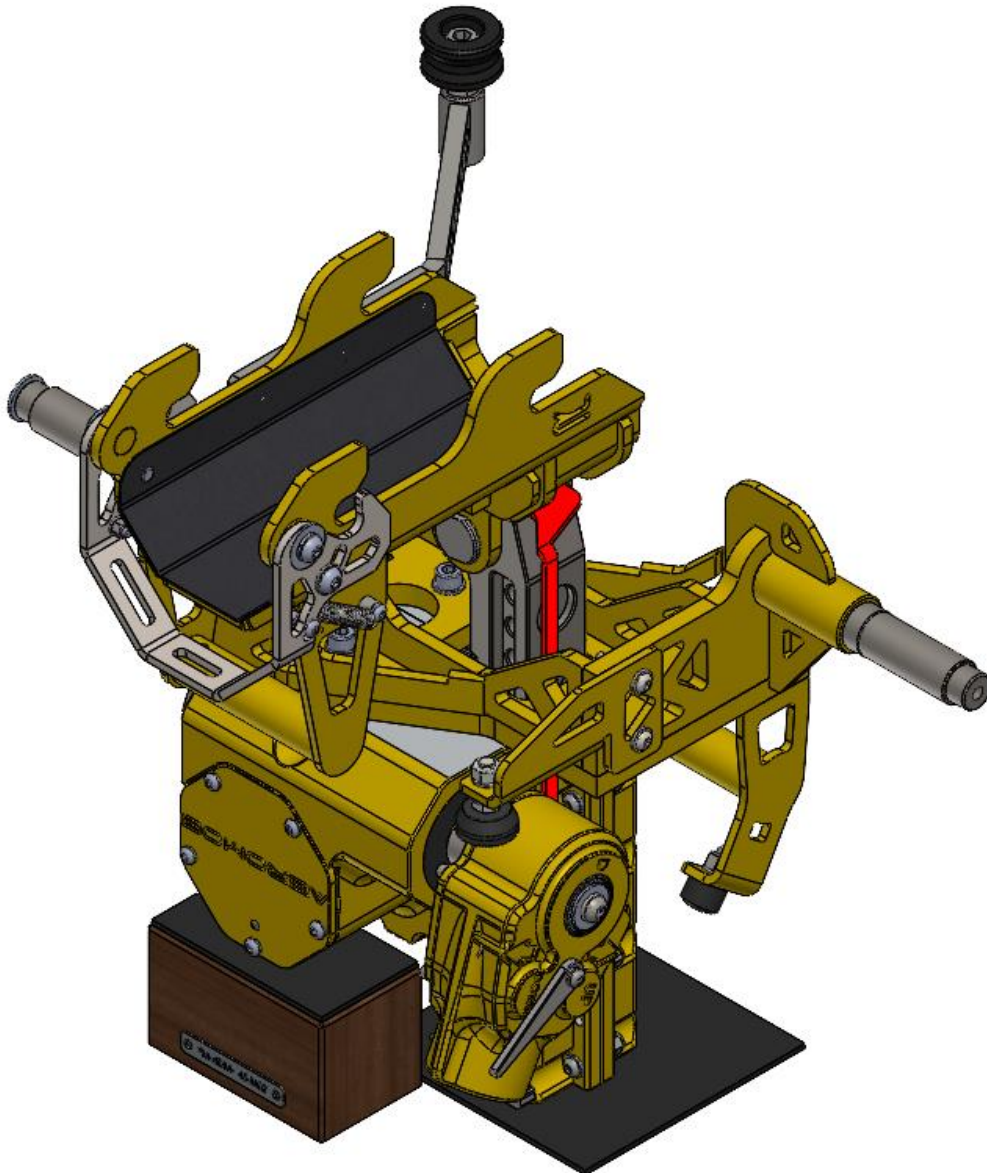

Figure 6
- c. With the block upside down and the gear rack all the way out, install the grab assembled according to MM AM-HDM-145-K01/2-6. See Figure 6.